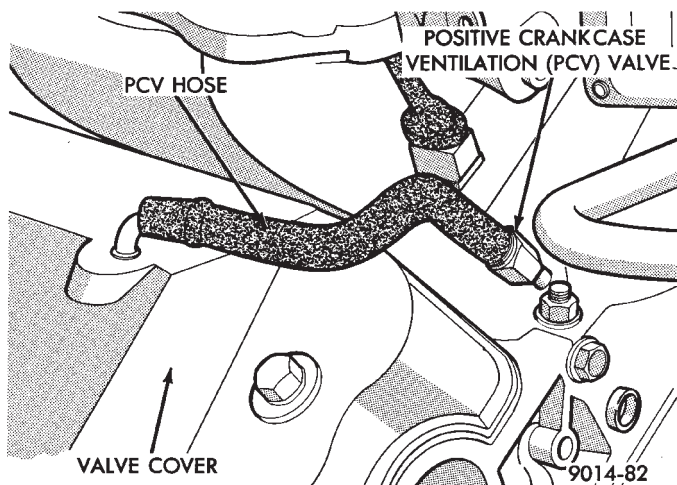

Fig. 23 3.0L PCV Valve
- (1) Warm engine in Park or Neutral until the cooling fan has cycled on and off at least once.
- (2) Ensure that all accessories are off.
- (3) Hook-up the timing check device and tachometer.
(4) Disconnect the coolant temperature sensor and set basic timing to 12° BTDC $\pm 2^{\circ}$ BTDC.
(5) Shut off engine. Reconnect coolant temperature sensor wire.
(6) Disconnect the PCV valve hose from the PCV valve (Fig. 23).
(7) Plug the PCV valve nipple.